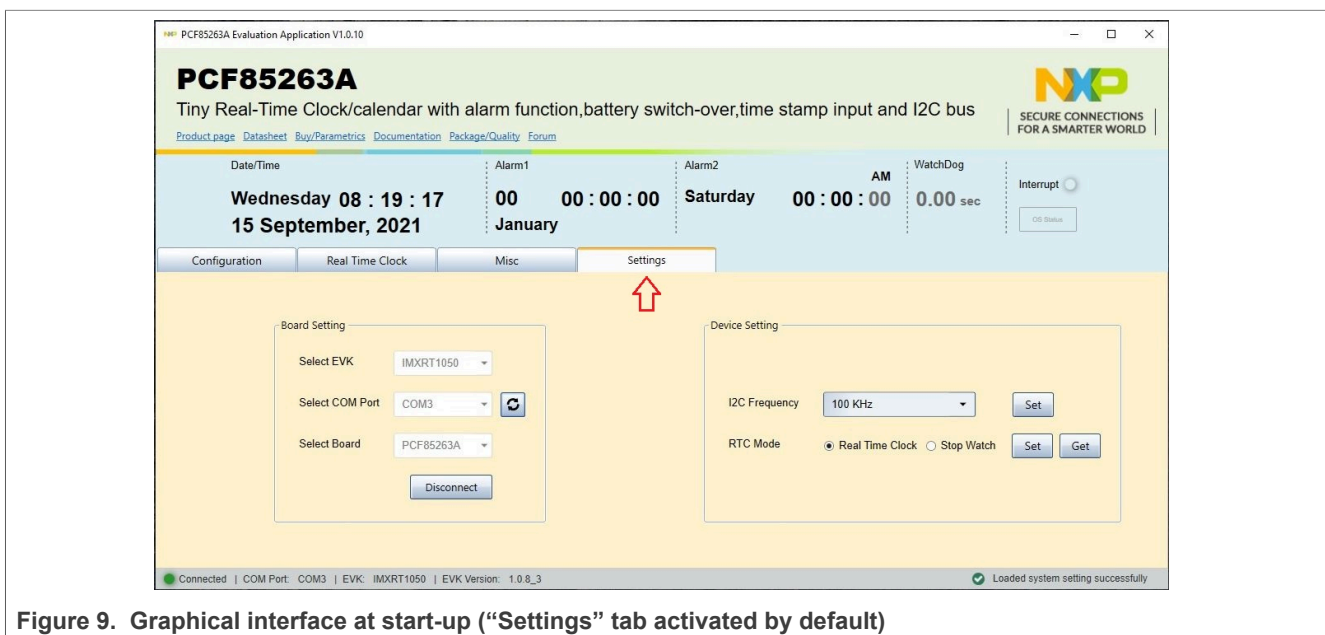

Figure 9. Graphical interface at start-up (“Settings” tab activated by default)
Once installation is complete, assure that one of the mentioned three EVK with attached PCF85263ATL-ARD daughterboard is connected to PC and powered-on. Open NXP\_GUI(PCF85063TP,PCF85263ATL,PCF85063A) GUI application. An interface will appear as is shown in Figure 9.
- **Select Board:** allows the user to select the correct daughterboard (the application can support three different boards). In Figure 9, the selected board is PCF85263A. Selecting a wrong daughterboard causes the connection to fail and a pop-up window with the message: *“Unable to Connect with Daughter Card”* appears on the screen.